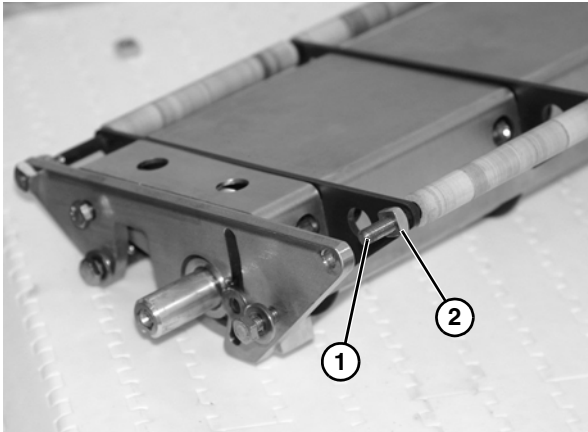

Figure 31
- Slide rod (**Figure 31, item 1**) inward and remove the inner nut (**Figure 31, item 2**).